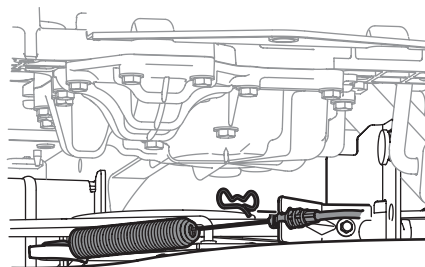

Figure 4-2
- Remove the bow pin that secures the PTO cable to the bracket on the deck, slide the PTO cable out of the bracket and unhook the spring from the idler bracket. See Figure 4-2.